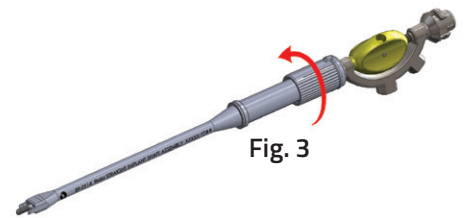

Fig. 3
- b) Turn the ribbed collar on the Inserter Shaft, and firmly rotate it clockwise to disengage it from the Instrument Body. (Fig. 3)